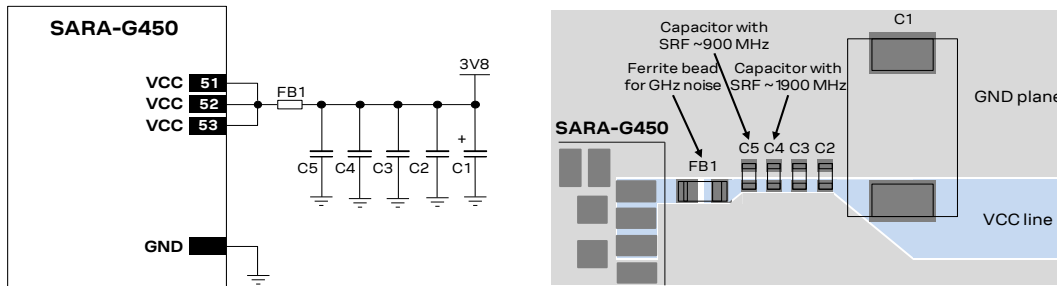

Figure 27: Suggested schematic and layout design for the VCC line, highly recommended when using an integrated antenna (ferrite bead is not strictly required)
- Ferrite bead specifically designed for EMI noise suppression in GHz band (e.g. Murata BLM18EG221SN1) implementing the circuit described in Figure 27 to filter out EMI in all the GSM bands. The ferrite bead can be replaced with a 0 (zero) Ω jumper.
For devices integrating an internal antenna, it is recommended to provide space to allocate all the components shown in Figure 27 and listed in Table 17. The mounting of each single component depends on the specific application design.